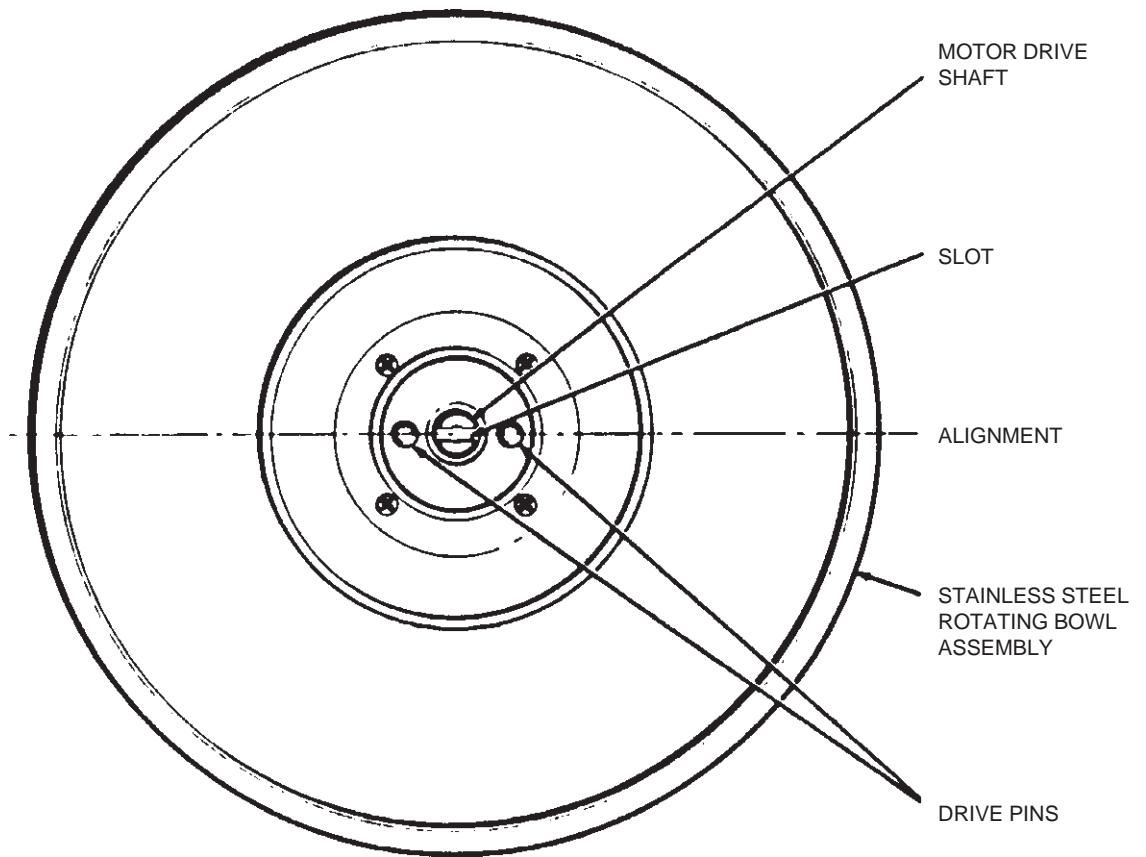

Figure 2-2. Stainless Steel Rotating Bowl Installation
2. Position the rotating bowl assembly (catalog number 12796, supplied) over the motor drive shaft. Align the two drive pins in the bowl with the slot in the drive shaft (see figure 2-2). Slide the bowl down the drive shaft until the two pins in the bowl engage the rubber drive ring. Press the bowl down firmly.